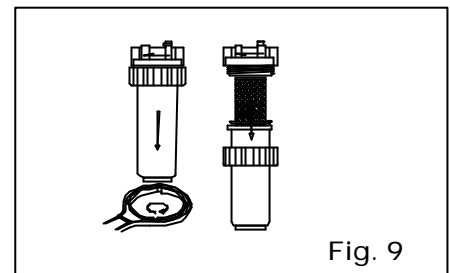

Fig. 9
83. REPLACEMENT OF THE FILTER CARTRIDGE (Fig. 9)